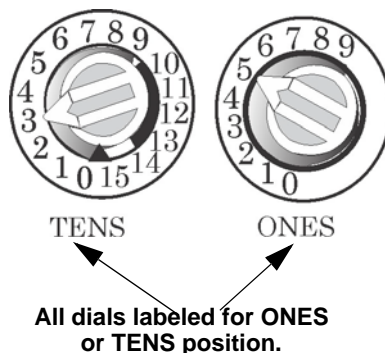

Figure 7.4 SK SLC Device Addressing Using Rotary Dials
**Example 1:** To select device address 35, turn the *ONES* rotary dial to **5** and the *TENS* rotary dial to **3** as shown in Figure 7.4.